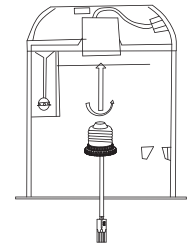

Figure 1
STEP2: Screw E26 socket adapter into socket in housing. (Figure 1)